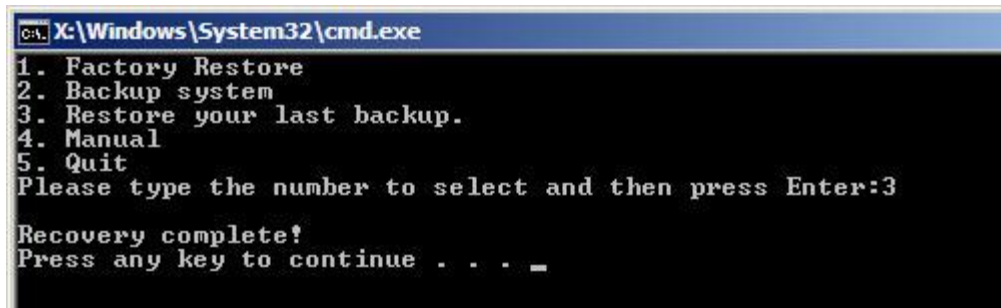

Figure D-39: Restore System Backup Complete Window
Step 3: The screen shown in **Figure D-39** appears when backup recovery is complete. Press any key to reboot the system.